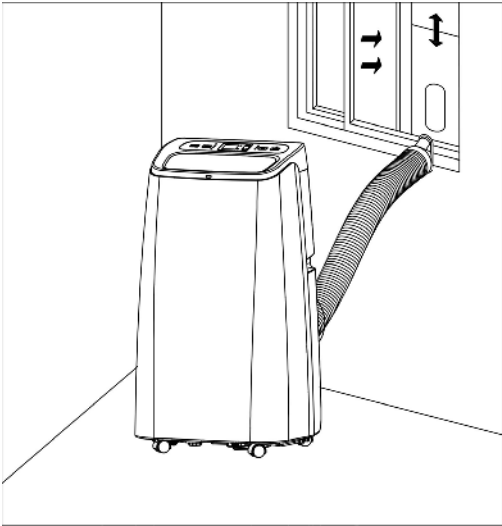
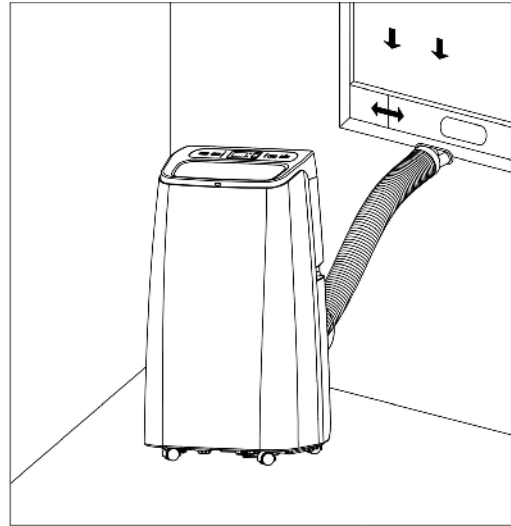

Figure 5
Figure 6
- b) Elongate the hose and snap the flat end of the hose joints into the elliptical hole of the window sealing plate assembly (as shown in Figure 5 and Figure 6) .